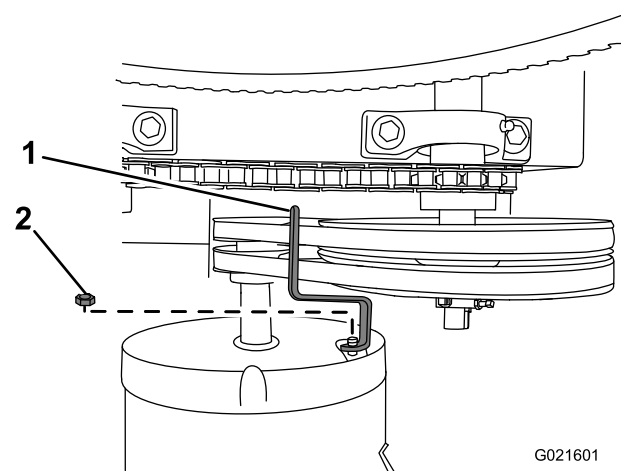

Figure 37
3. Remove the nut that secures the belt guide to the motor, and remove the belt guide (Figure 37).
7. Loosely secure the belt guide to the motor (Figure 37) with the bolt that was removed in step 3 of Removing the Belts (page 26).